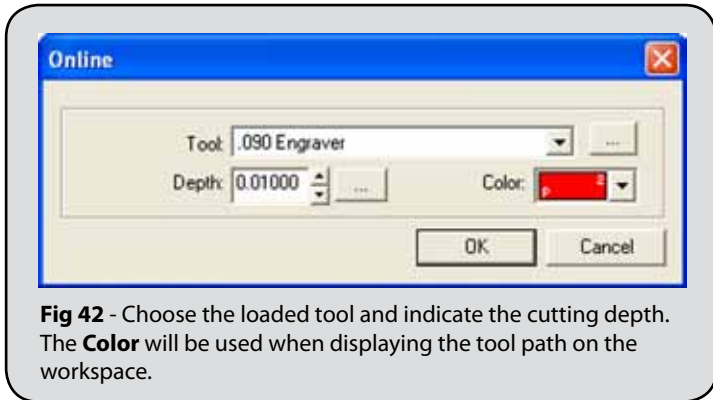

Fig 42 - Choose the loaded tool and indicate the cutting depth. The **Color** will be used when displaying the tool path on the workspace.
- The **Online** dialog will open. For this example, a 0.005 1/4” Engraver was used, and the **Depth** was set to 0.01”. (Fig. 42)